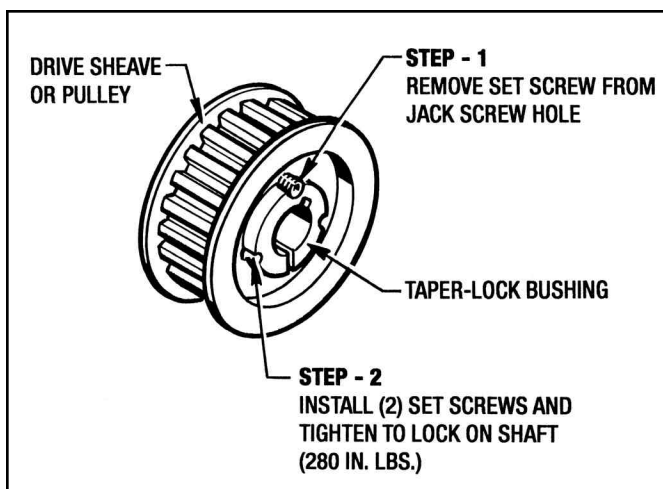

Figure 9.13 - Installation of Drive Pulley
5. Reinstall the lower back plate of Belt Guard (#124) with (2) Screws (#305) and (4) Screws (#268).
**NOTE** - If you do not have Fan Cooling, the (2) Spacers (#288) will go behind the (2) Screws (#305).
6. Lower the Drive Motor into place and attach with (4) motor mounting bolts.
7. Install Drive Pulleys and Drive Belt as per Manufacturer's Specifications. (See Figure 9.13 for Drive Pulley Installation)